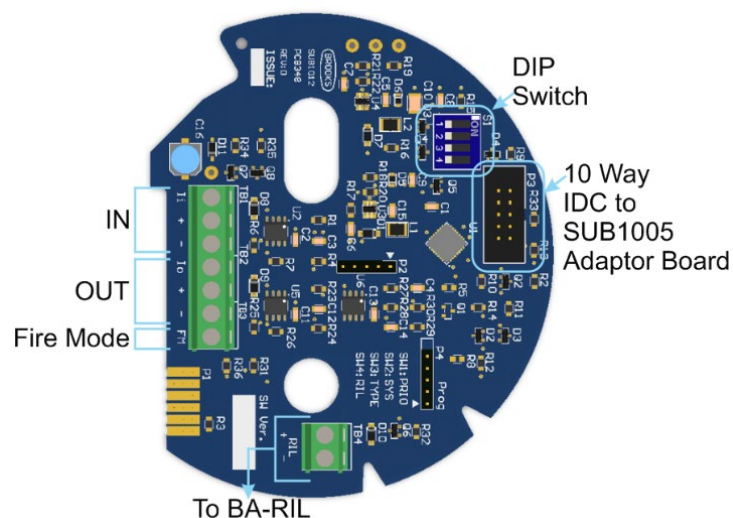
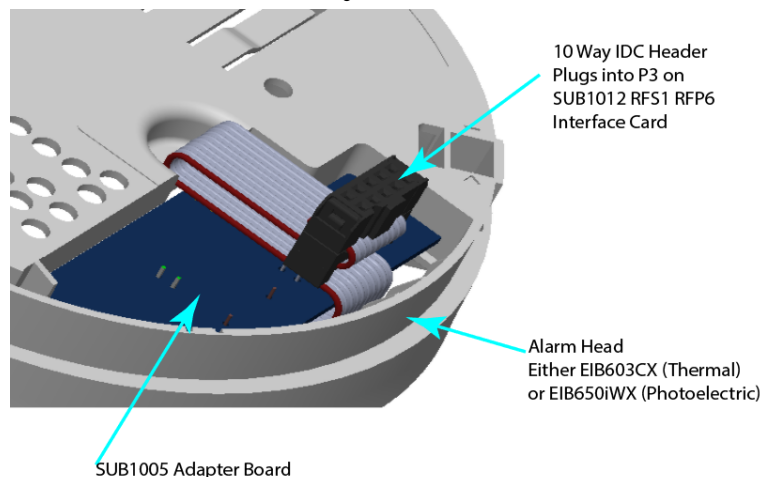

Figure 9 SUB1012 Terminals - Interface Card
Figure 10 Ribbon cable from SUB1005
- 3) Connect the appropriate Smoke/ Heat Alarm head to BAX16 by plugging the adapter board SUB1005 into the socket in the Alarm as shown in Figure 10. Refer to Figure 9 for head removal.